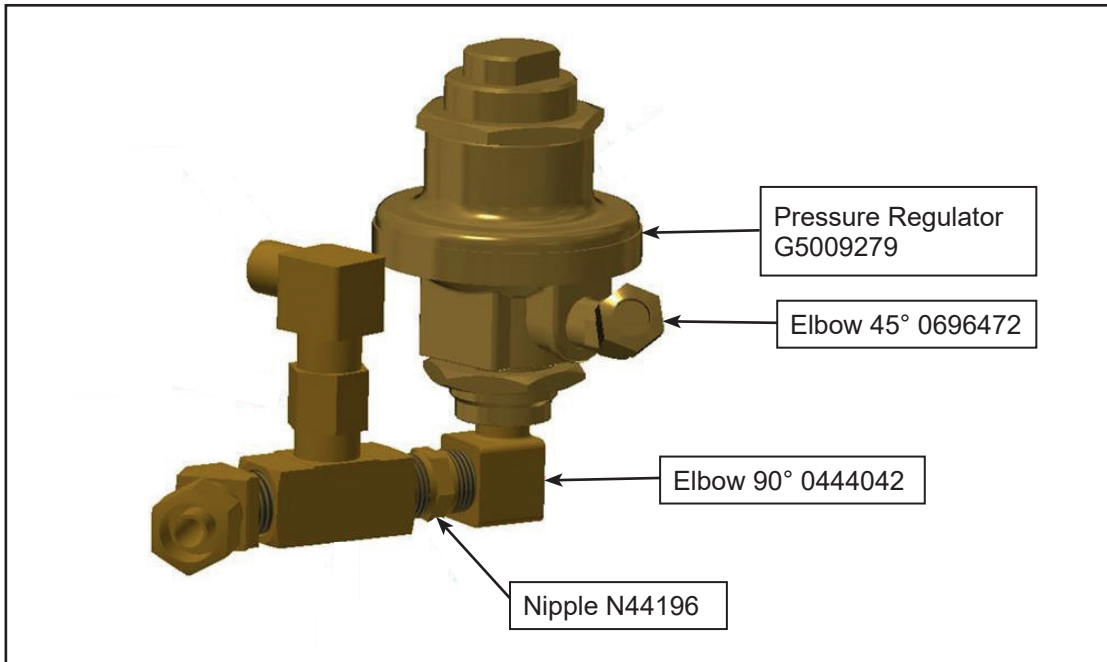

Figure 4 - Removal of Old Pressure Regulator
- 1.9. Remove old pressure regulator P/N G5009279, elbow 45° P/N 0696472, elbow 90° P/N 0444042 and nipple P/N N44196 (see figure 4).